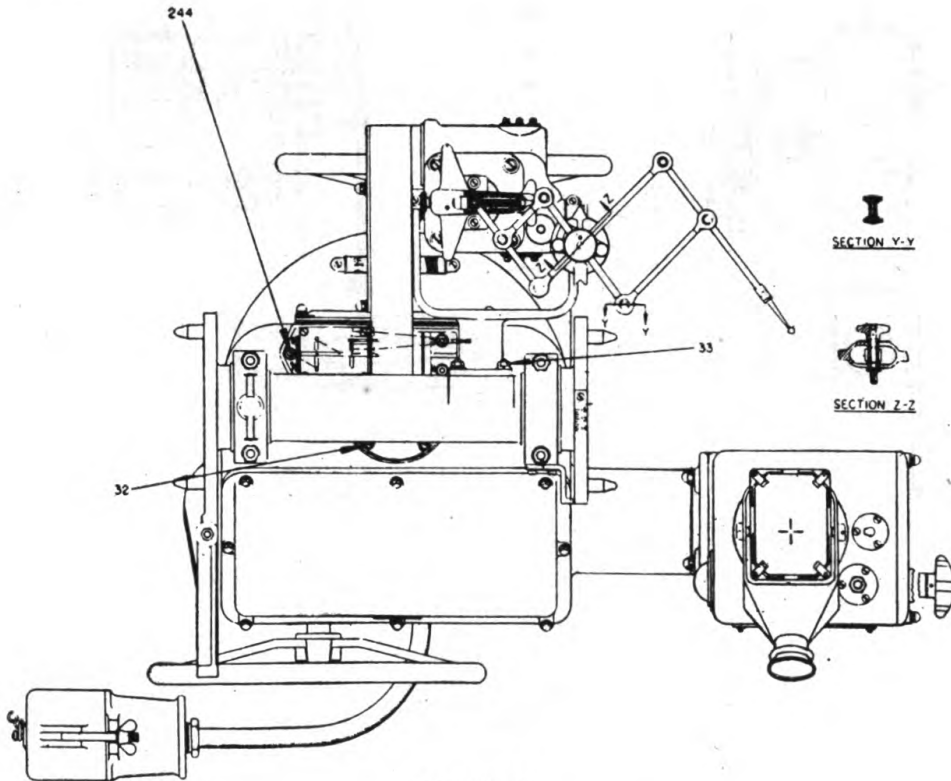

FIGURE 7.
(2) Referring to figure 7, remove four screws 32, and two nuts 244.
(3) Holding the assembly in position, remove nuts 33 and lift assembly away from main case. Care should be taken to prevent the assembly from dropping against the main case during this operation.